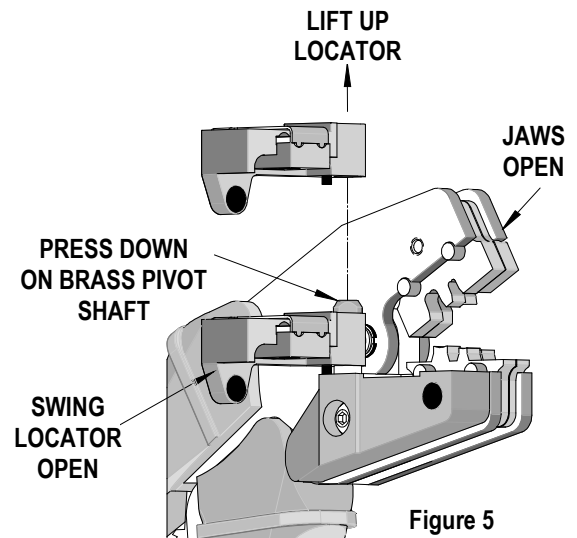

Figure 5
3. Firmly press down on the brass pivot shaft with your thumb while pulling up on the locator. Slip the locator off of the top of the brass pivot shaft. See Figure 5.